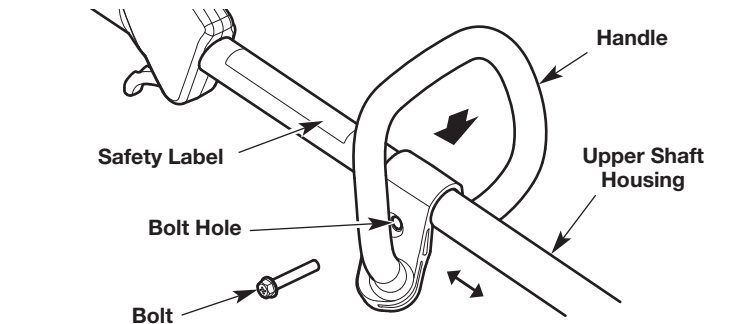

Fig. 6
1. Push the handle down onto the upper shaft housing (Fig. 6 or Fig. 9). Make sure the bolt hole faces to the right (Fig. 6 or Fig. 9).
2. Insert the bolt into the bolt hole and push it through (Fig. 6 or Fig. 9). Tighten the bolt with a flat-head screwdriver, but do not tighten the bolt completely.
3. Hold the unit in the operating position (Fig. 10). Move the handle up or down the upper shaft housing to a comfortable location (Fig. 6 or Fig. 9). Make sure the handle is positioned beyond the end of the safety label (Fig. 6 or Fig. 9).
1. Loosen the bolt with a flat-head screwdriver (Fig. 6 or Fig. 9).
2. Hold the unit in the operating position (Fig. 10). Move the handle up or down the upper shaft housing to a comfortable location (Fig. 6 or Fig. 9). Make sure the handle is positioned beyond the end of the safety label (Fig. 6 or Fig. 9).